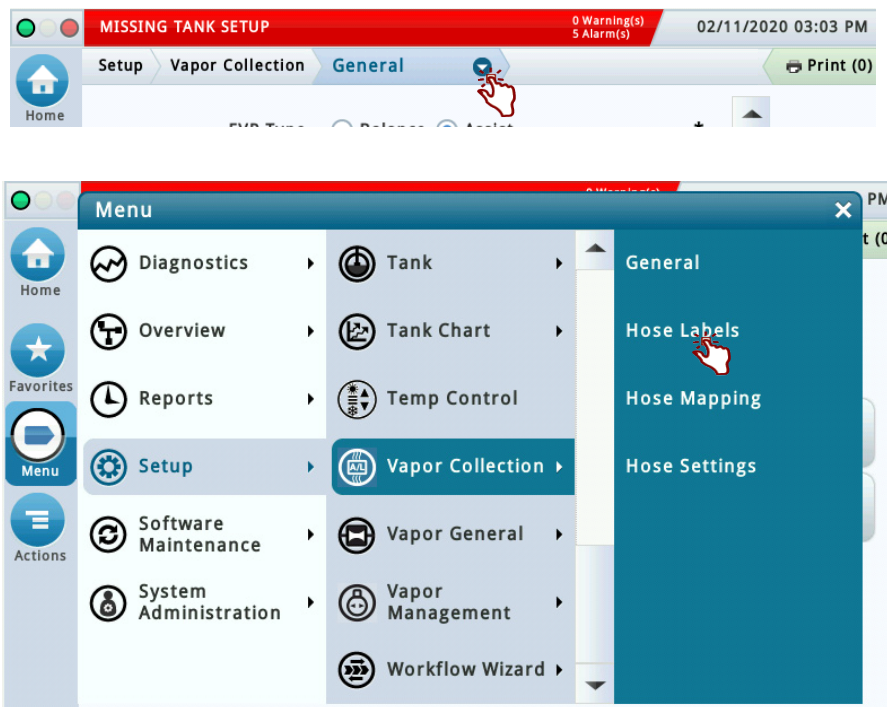

Figure 12. Accessing Vapor Collection Hose Labels Setup Screens
1. Touch the down arrow in the Crumb path below to return to the Vapor Collection setup screen (Figure 12).